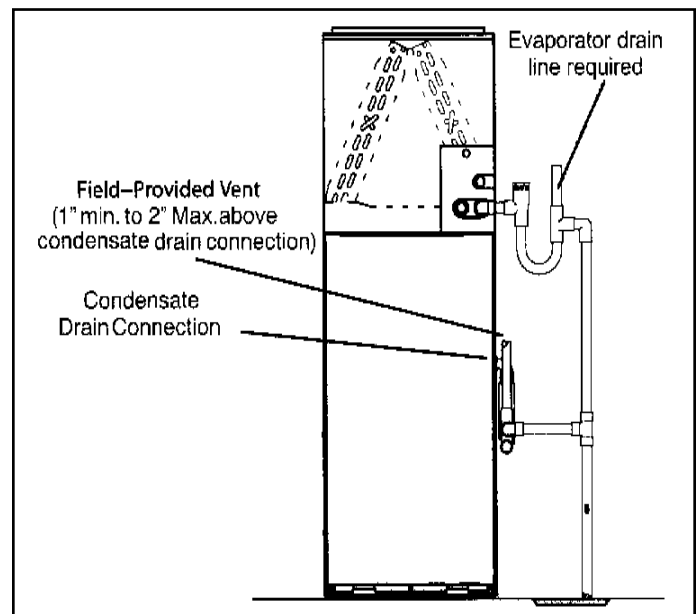

Figure 57. Evaporator Coil Using a Common Drain
5. Figure 54 and Figure 55 show the furnace and evaporator coil using a separate drain. If necessary the condensate line from the furnace and evaporator coil can drain together. See Figure 57 and Figure 58.